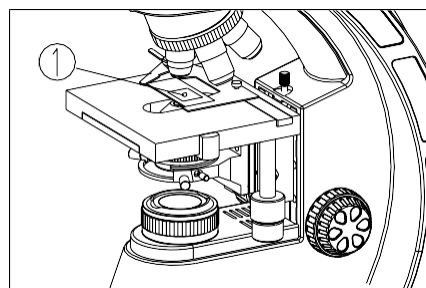

Fig. 23
(1) Use the 4X or 10X objective to focus the specimen.
(2) Place a drop of oil ① on the specimen observed (see Fig. 23).
(3) Rotate the nosepiece counterclockwise and rotate the oil objective (100X) into the light path. Then use the fine focusing knob to focus.